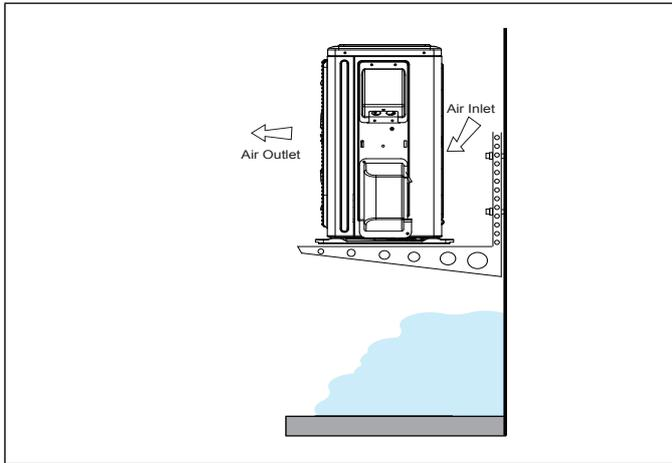

Figure 21. Outdoor Unit on Brackets above Snow Line
- The unit base should be elevated above the depth of average snows as illustrated in "Figure 21. Outdoor Unit on Brackets above Snow Line" on page 10.